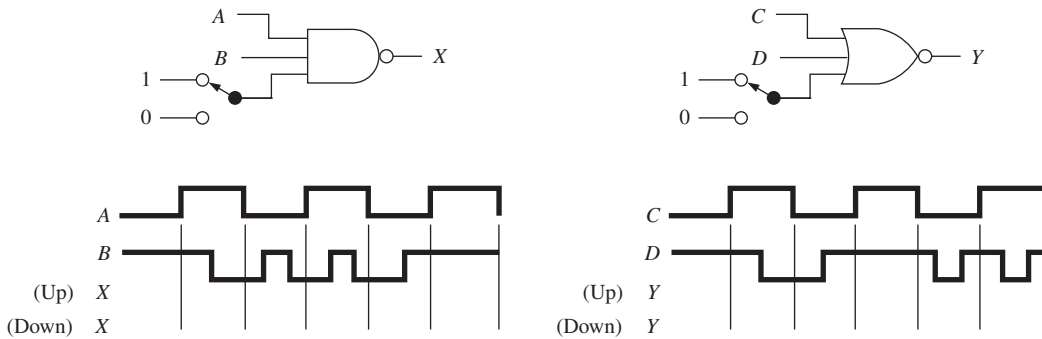

Figure P32
32. Using Figure P32, sketch the waveforms at X and Y with the switches in the down (0) position. Repeat with the switches in the up (1) position.
33. In words, what effect does the switch have on each circuit in Figure P32?